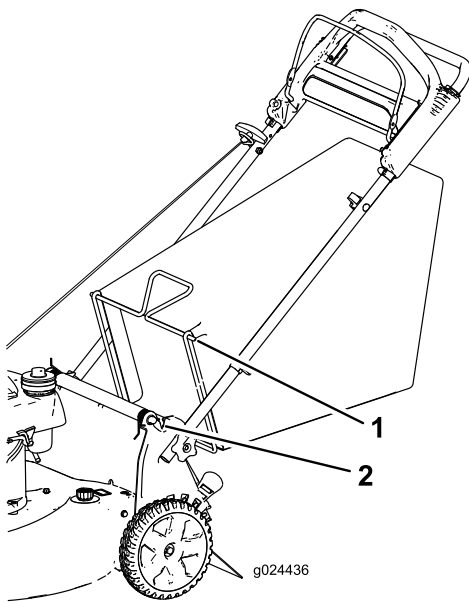

Figure 14
2. Install the grass bag, ensuring that the pins on the bag rest in the notches on the handle (Figure 14).